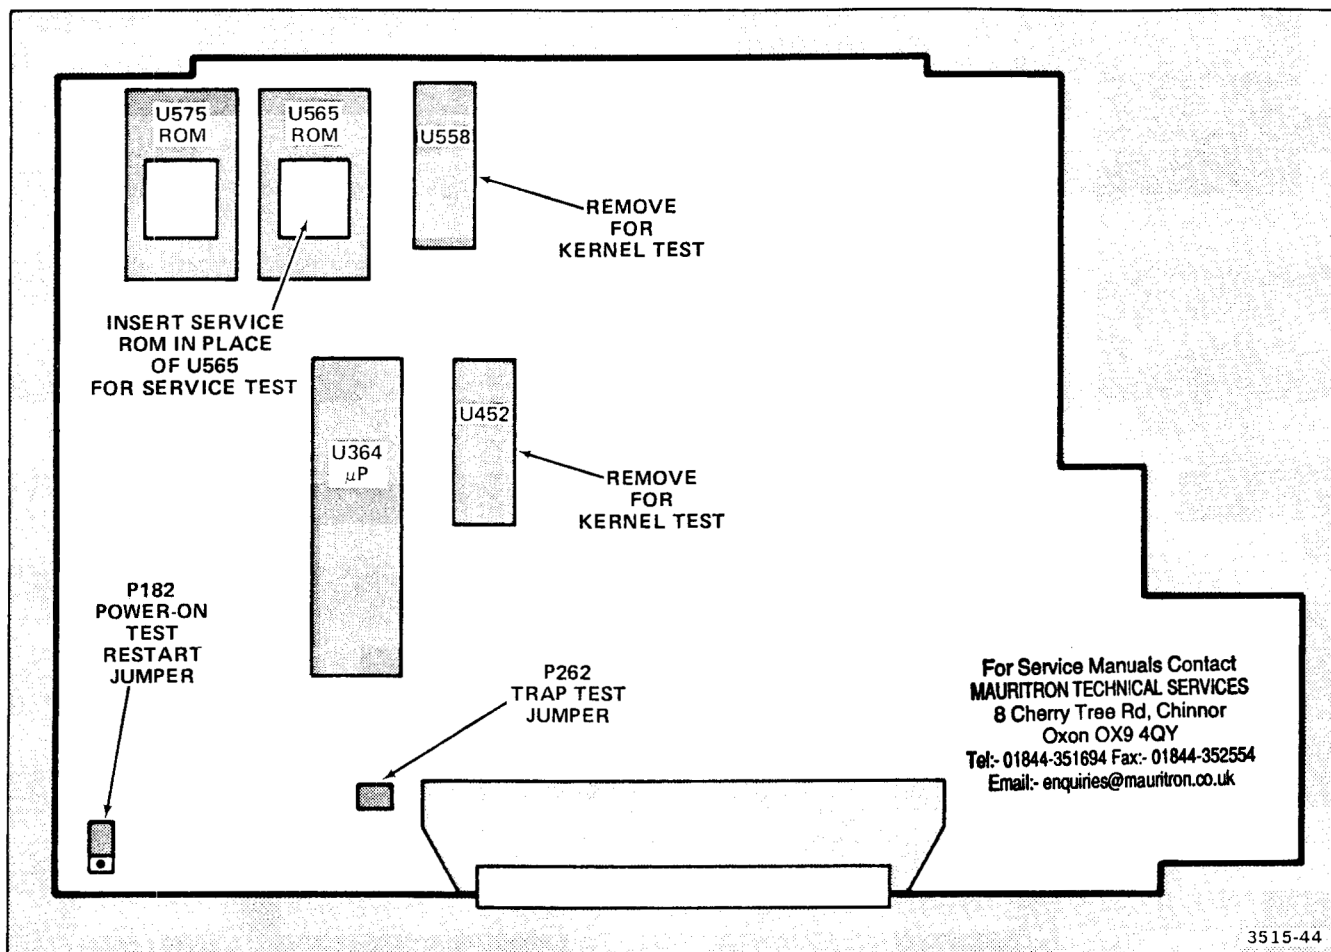

Figure 5-7. Location of the test ROM and test jumpers on the Microprocessor circuit board.
To initiate the test, momentarily unplug P262 (see Figure 5-7) and then reconnect it. Microprocessor operation will be interrupted, and the Trap Test routine will begin. To end the test, cycle the POWER switch OFF then ON. The Microprocessor will return to its normal operating routines.
2. Carefully remove U452 and U558 (see Figure 5-7) while observing the "Static Sensitive" precautions given at the beginning of the "Corrective Maintenance" portion of this section. Store the IC in a static-safe location until they are reinstalled.
3. To start the Kernel Test, reconnect the 468 to the power source and set the POWER switch to ON. To restart the test, momentarily place Power-on Restart Jumper P182 to the RESET position and then return it to the RUN position (see Figure 5-7).
2. Carefully remove U456 (see Figure 5-7) while observing the "Static Sensitive" precautions given at the beginning of the "Corrective Maintenance" portion of this section. Pull evenly on both ends of the IC so that all pins come free together. Carefully removing U456 will prevent bending the pins. Store the IC in a static-safe location until it is reinstalled.
2. Remove ROM U565 from its socket (see Figure 5-7) while observing the "Static Sensitive" precautions given at the beginning of the "Corrective Maintenance" portion of this section. Pull evenly on both ends of the IC so that all pins come free together. Carefully removing U565 will prevent bending the pins. Store the IC in a static-safe location until it is reinstalled.
Once the service routine number has been set, power may be applied to the 468. The selected routine will begin to run in place of the normal power-on self-test. If the oscilloscope is already in operation, a routine can be started by removing Restart Jumper P182 from the RUN position and placing it momentarily in the RESTART position; then returning it to the RUN position. See Figure 5-7 for the location of the Restart Jumper on the Microprocessor circuit board.